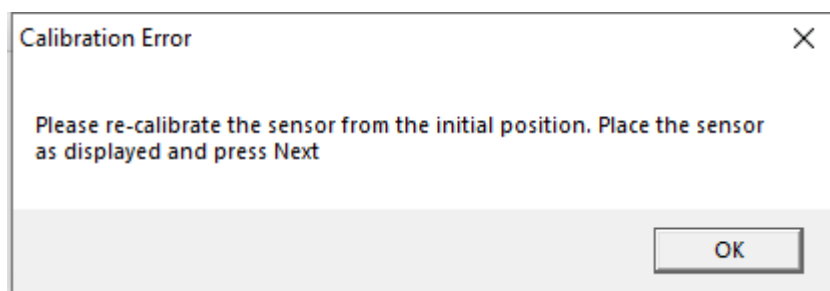

Figure 59. Angle Calibration Error Message
**NOTE:** If ROHM EVK GUI SW detects that calibration has been done on the same calibration position twice in a row, the Calibration Error window will appear, and the user will be required to restart the calibration procedure from the 1st calibration procedure (Figure 59).